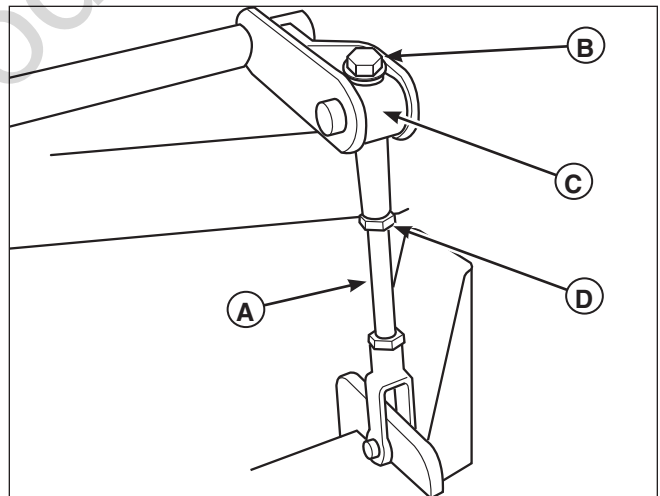

Figure 26. Deck Lift Rod Adjustment
6. Inspect the deck lift rods (A, Figure 26) to see if the hex heads (B) are contacting the pivot links (C) and that the rear of the deck is resting on the 2 X 4's.
7. Tighten the deck lift rod jam nuts (D, Figure 26).